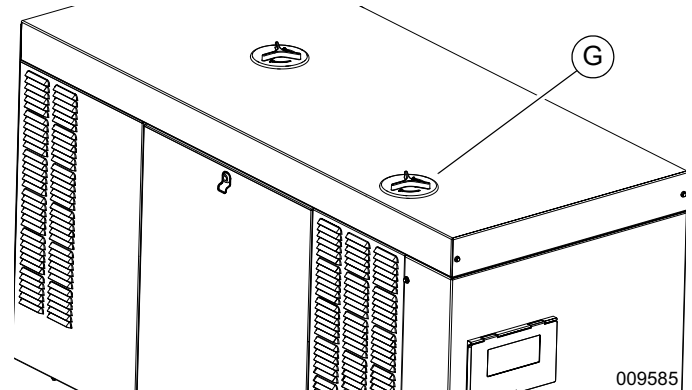

Figure 8-2. Access Oil Supply Tank
1. See Figure 8-2. Rotate plastic cover (G) counter-clockwise and remove from top of enclosure.